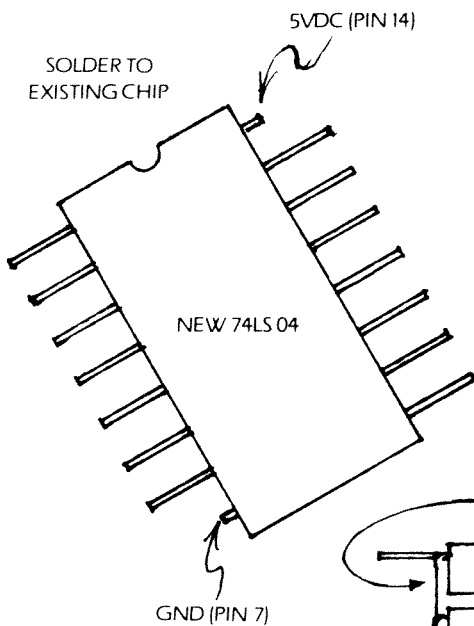
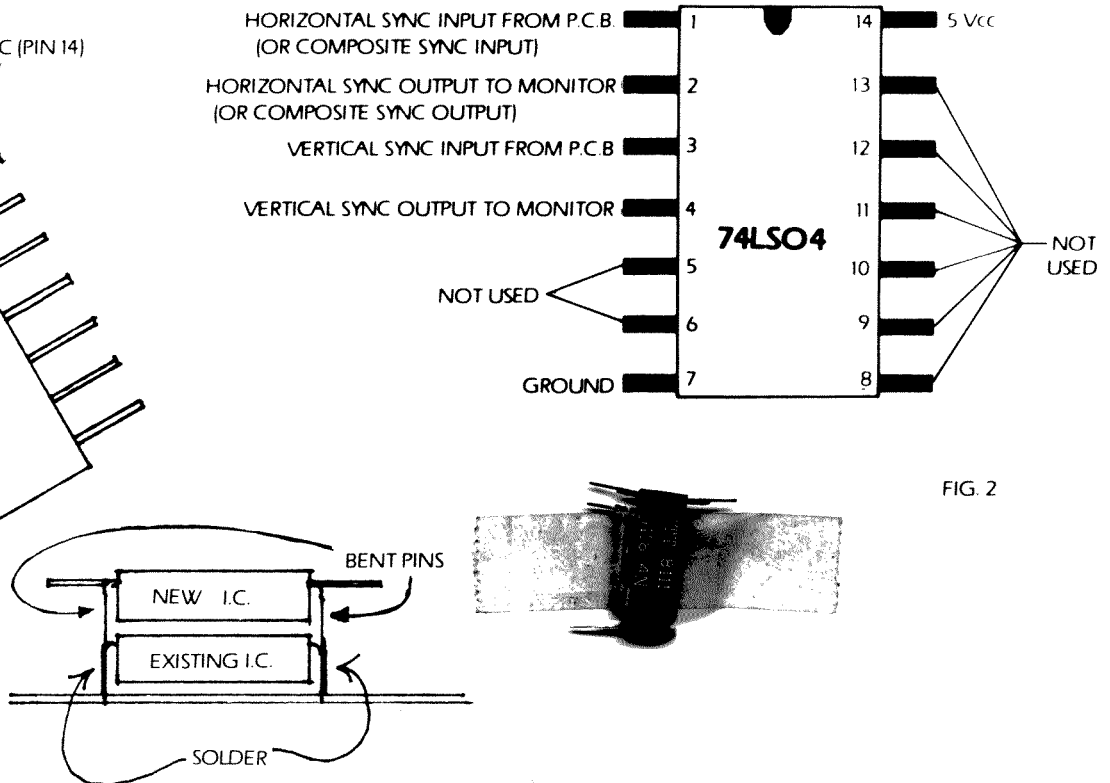

FIG. 1
FIG. 2
**CURE 1:** Install a simple one I.C. Circuit on your logic board. This I.C. may be "piggy backed" on to another 7404 series chip for power by bending up all but the two power pins so that they are parallel to the top surface of the new I.C. and then connecting the power pins only to the existing chip. (See Fig. 1) Next connect the sync wires as shown in Fig. 2. (Note: Figure 2 shows a hookup for either **composite** or **separate** syncs.)